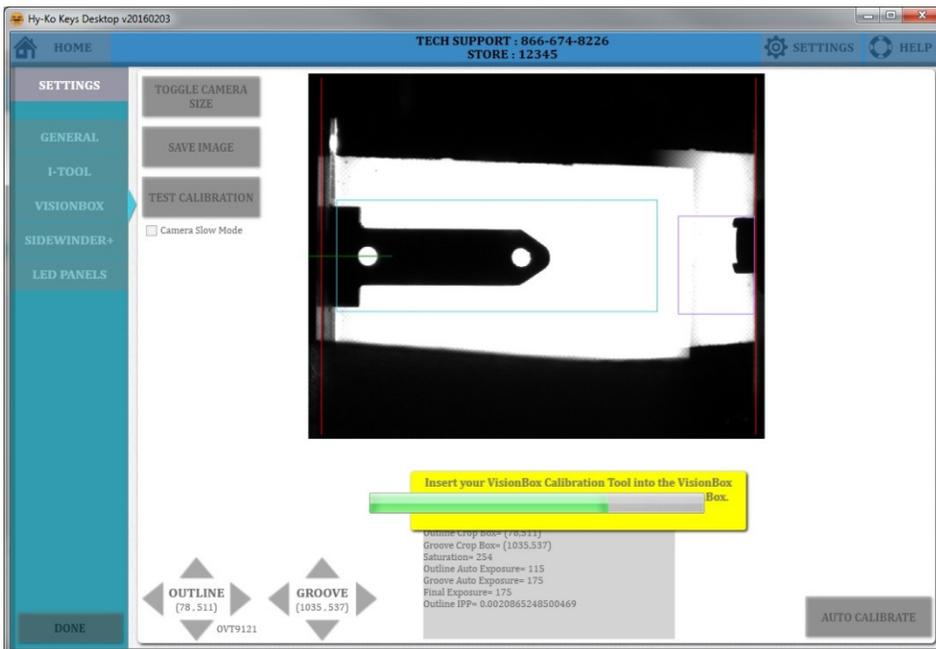

fig. 18
- The Vision Box will begin by scanning the Camera Calibration Tool (see fig. 18).